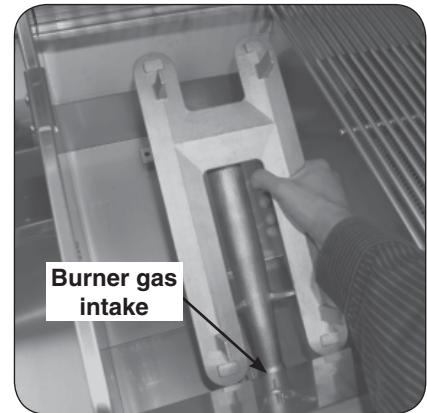

Fig. 2-2 Remove the burner
- Remove the existing main burner by lifting the pegs extending from under the back end of the burner out of the two (2) holes on the bottom of the oven. After the pegs have been freed, move the whole burner toward the back of the grill so that the burner gas intake pulls away from the gas orifice at the front fire wall of the grill (see Fig. 2-2). Then carefully lift the burner out and set it aside. Retain the clip with the burner so that they can be re-installed in the future if desired.